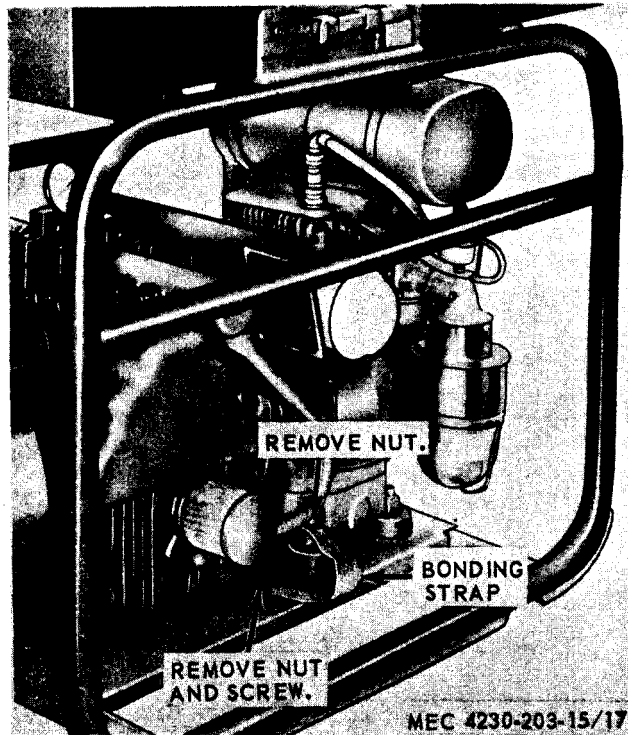

Figure 4-1. Interference suppression components, location and removal.
a. Figure 4-1 locates and provides instructions for removal of interference suppression components.